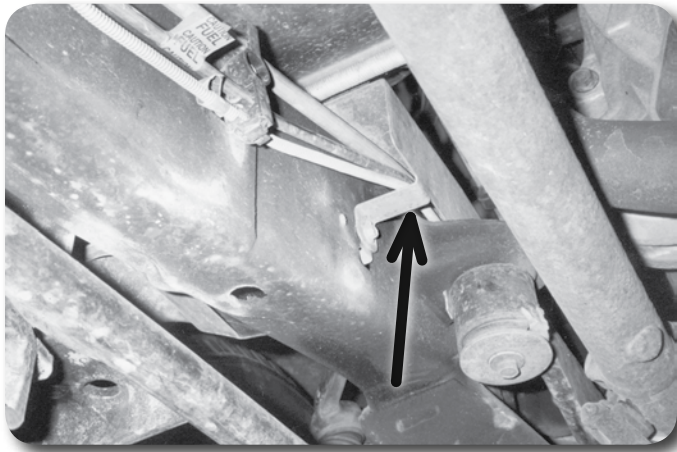

Figure 6
14. Locate the sheet metal cover (if equipped) on the inside of the driver's side frame rail that covers fuel and brake lines going to the rear of the vehicle **Figure 6**. Remove the four bolts that mount the cover to the frame. Remove the cover from vehicle. The cover will be modified and reinstalled later. Save hardware.